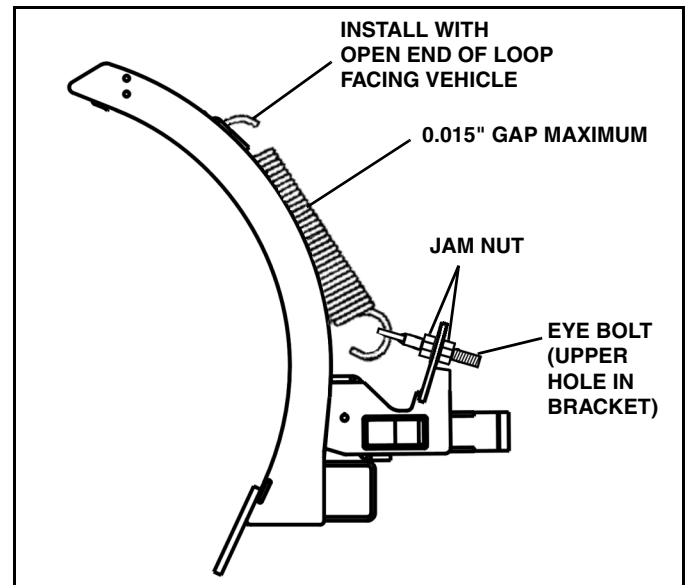
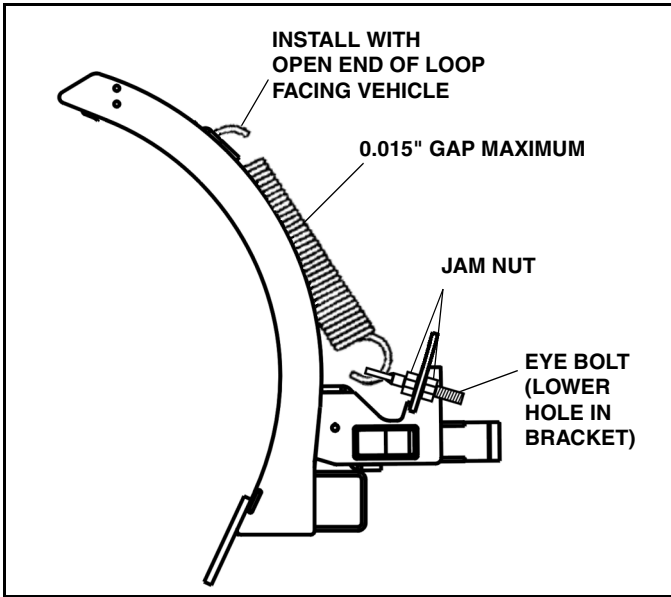

Figure 1-7a
Figure 1-7b
7. Hook springs onto blade with open end of loop facing up. (See Figure 1-7a)(See Figure 1-7b).
8a. **29 SERIES BLADE ONLY:** Hook other end of spring onto eyebolt. Insert one eyebolt on each side of the blade into the upper hole on the swing frame spring bracket. Use a nut on either side of bracket to secure. (See Figure 1-7a).
8b. **32 SERIES BLADE ONLY:** Hook other end of spring onto eyebolt. Insert two eyebolts on each side of the blade into the lower holes on the swing frame spring bracket. Use a nut on either side of bracket to secure. (See Figure 1-7b).